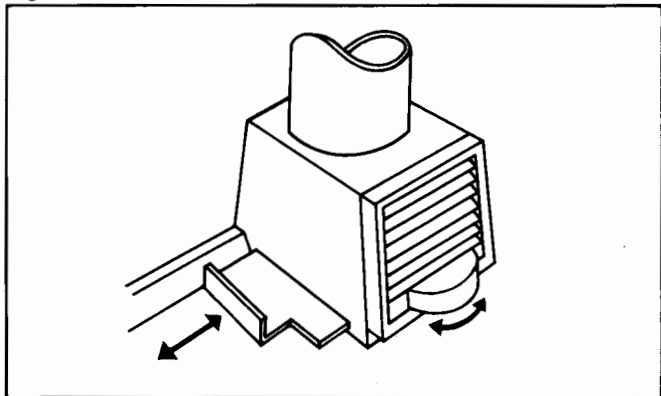

Fig. 2
- Open flue chamber damper to maximum (Fig. 2).
- Flue dilution lever fully to 'left' (flue chamber door closed, Fig. 2).
- Flue dilution lever fully to 'Left' (flue chamber door closed, Fig. 2).
Turn the flue dilution lever (See Fig. 2) from left to right hand so that the flue chamber door opens at the bottom and minimises burning rate.